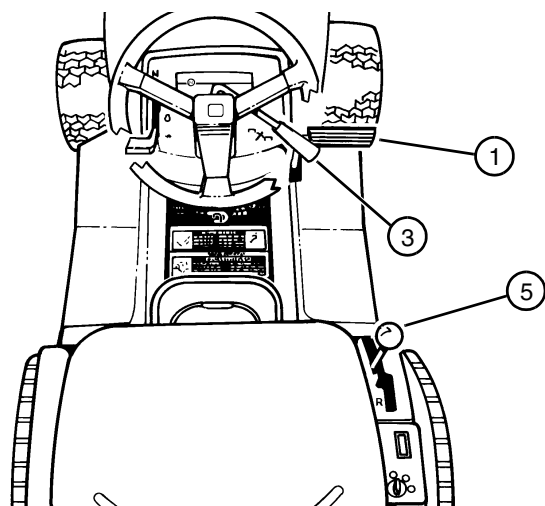

FIG. 14
- To travel forward: unlock park brake, move hydrostatic drive lever (5) to the right and forward. (See FIG. 14) The speed of the tractor is determined by how far forward the drive lever is moved. Return lever to N (Neutral) to stop tractor.
- To travel forward: Push clutch/brake pedal (1) all the way forward to brake position. (See FIG. 14)
- First gear (1) – slowest speed/highest power.
- Second gear (2) through fourth gear (4) – general mowing.
- Fifth gear (5) – driving tractor for transport. Make sure the mower deck is raised to the highest position and the mower blade is disengaged.
- Reverse (R) – backing to avoid objects.
- Move shift lever (5) to the right and forward to desired forward position.